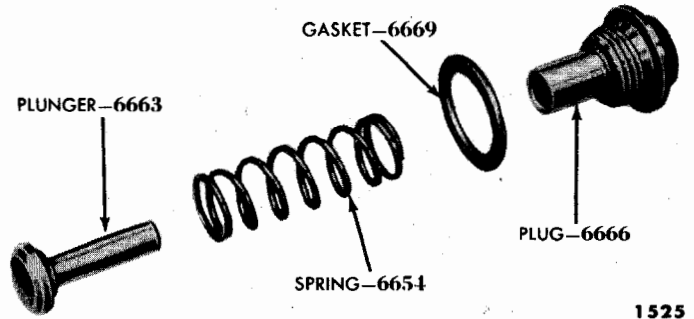

Fig. 21—Oil Pump Relief Valve
(1) **REMOVAL.** Remove the plug that retains the spring and plunger from the block. Remove the spring and plunger illustrated in fig. 21.